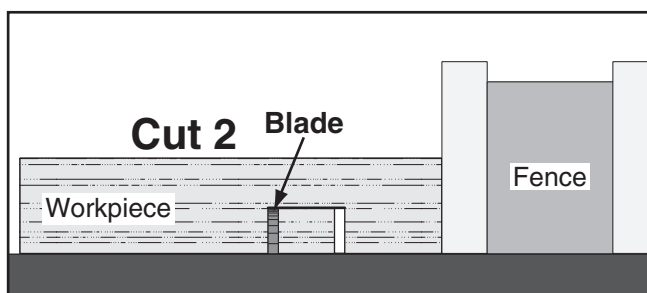

Figure 62. Second cut for a single-blade dado.
7. Repeat cutting operation on other side of dado, as shown in **Figure 62**.